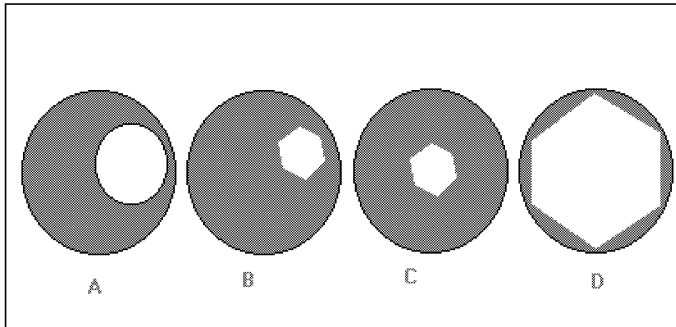

Figure 1
- B. With a specimen in sharp focus using the 10x objective, close the field diaphragm until it impinges on the field of view, Figure 1, Picture A.
- C. Focus the condenser using the side mounted rack and pinion controls until the leaves of the diaphragm are in sharp focus, Figure 1, Picture B.
- D. Using the condenser centration controls move the diaphragm into the centre of the field of view, it may help to open it until it is nearly touching the outside of the field to attain perfect centration, Figure 1, Pictures C & D.
- F. Fully open the condenser diaphragm and then slowly close it until you see the contrast within the image increase. If you then remove an eyepiece and look directly down the tube from a distance of 20-30cm you should see an image similar to picture D in Figure 1. The aim here is to have the “bright” area occupying approximately 70% of the total field. The amount it occupies will change dependant on the objective lens in use. If you have set up the instrument using the 10x objective (recommended) then as you increase the magnification this diaphragm will need opening to optimise the contrast and resolution. Often it is set for the objective which is either most frequently used or most critical in terms of resolution and left in that position.